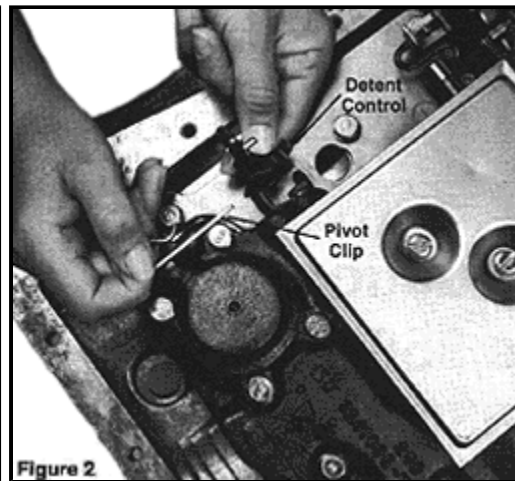
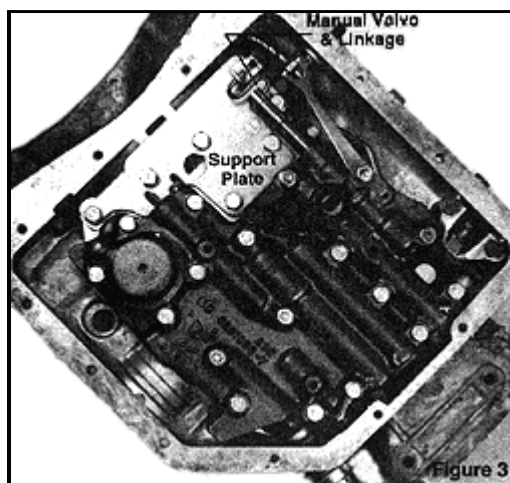

Figure 2
Figure 3
**STEP 4.** Remove pivot clip holding detent control valve lever in place. (**See Fig. 2**) Remove lever also and set them in the tray. Remove 18 valve body attaching bolts. (**See Fig. 3**) Remove valve body by pulling straight down and disengaging manual valve and link from manual lever. (Do not let manual valve fall out of valve body.) Put the valve body in the oil pan.